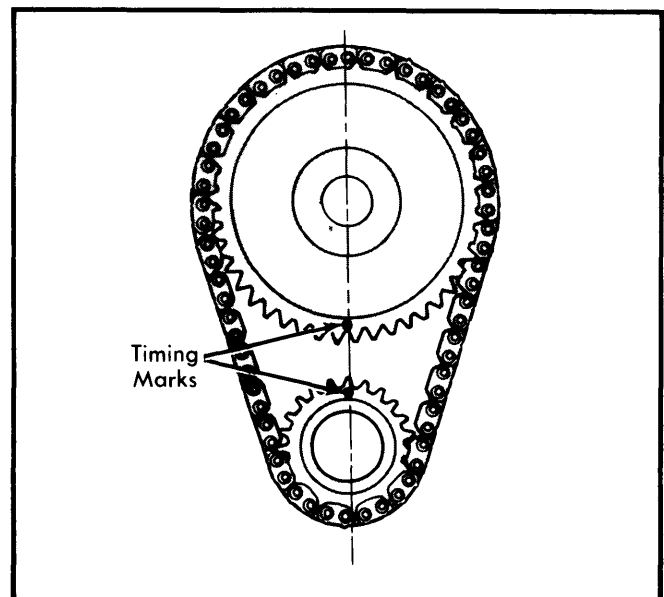

Fig. 11 Timing Chain Sprocket Alignment
**Removal** — Crank engine until timing marks are aligned. See Fig. 11. Remove camshaft sprocket cap screw, washers, fuel pump eccentric and spacer (if equipped). Slide both sprockets with timing chain forward and remove them as an assembly.
**Installation** — Position timing chain on sprockets with timing marks aligned. See Fig. 11. Slide both sprockets and timing chain onto engine as an assembly. Install spacer (if equipped), fuel pump eccentric, washers and sprocket cap screw. Tighten bolt and oil timing chain.